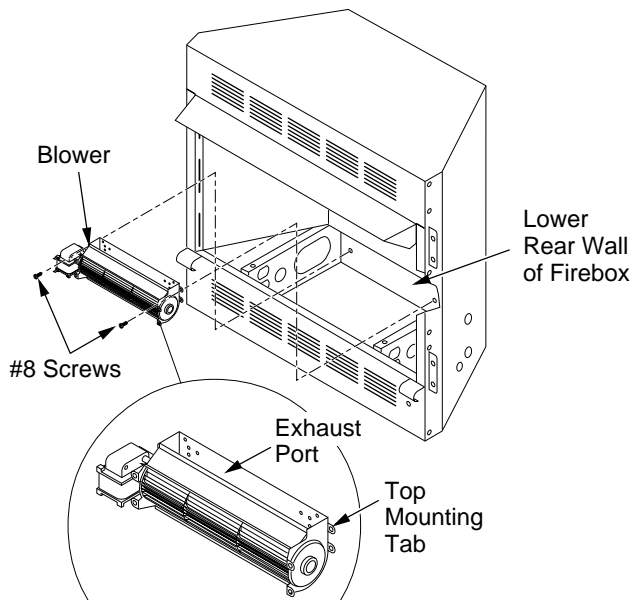

Figure 19 - Mounting Blower to Firebox
3. Place the blower against lower rear wall of firebox outer wrapper with the exhaust port directed upward. Align the holes in top mounting tabs of blower with holes in wall of wrapper (see Figure 19, page 14). Using two #8 screws provided, mount blower and tighten screws firmly.